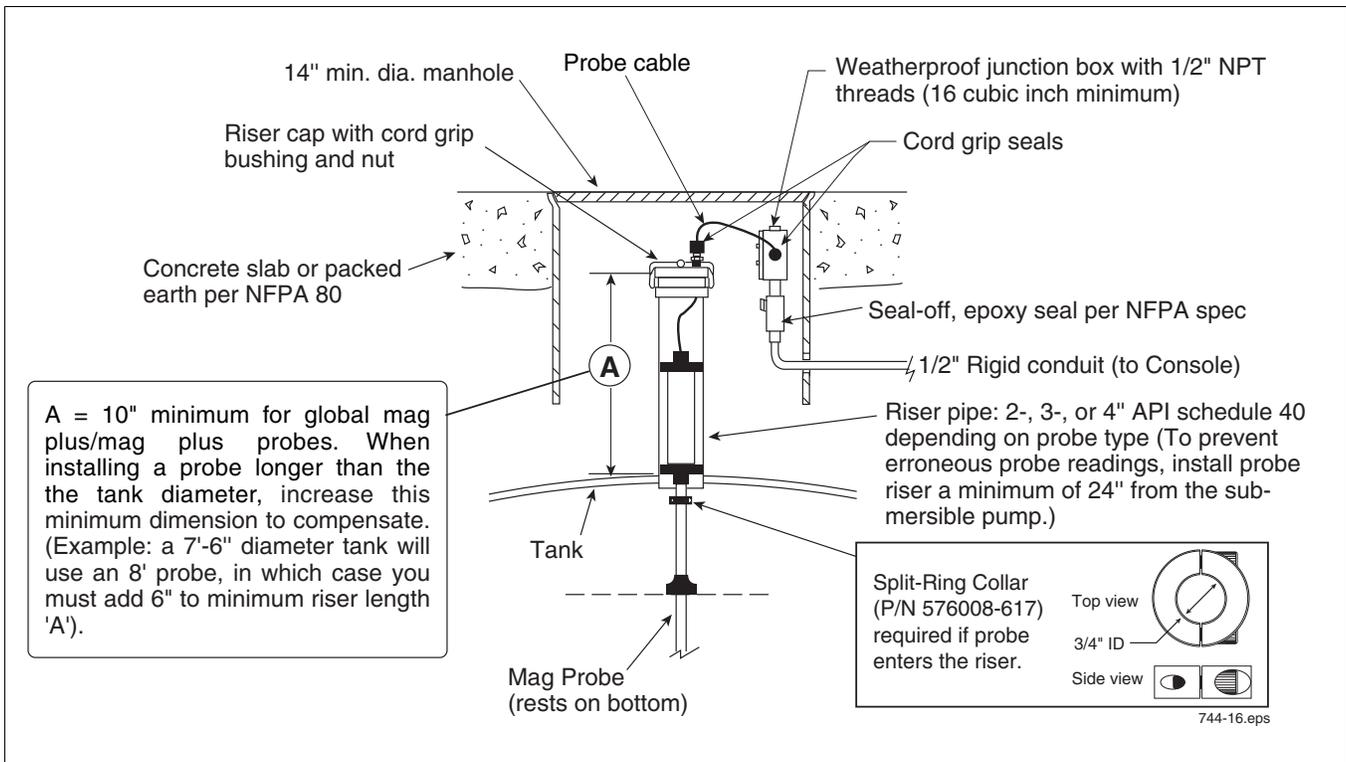
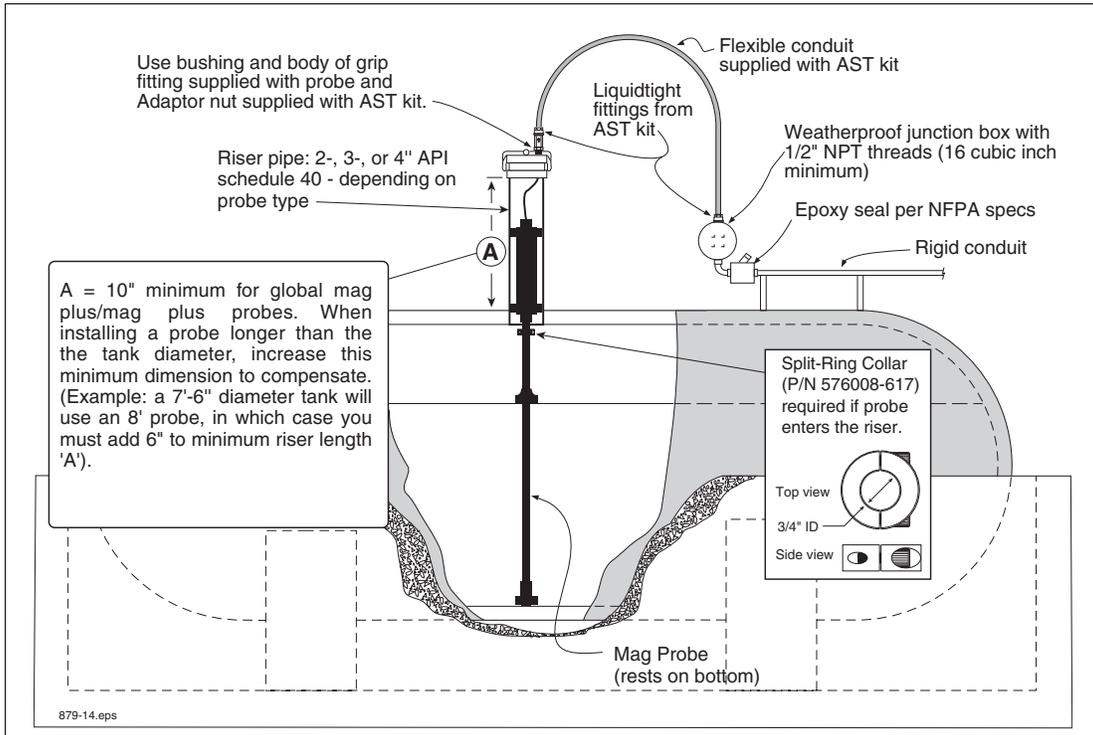

Figure 10. UST Probe Installation - Dedicated Riser
Figure 11. AST Probe Installation - Dedicated Riser
4. Gently slide the float(s) to the bottom of the probe shaft before raising the probe. Carefully lower the probe into the riser pipe until the boot rests on the bottom of the tank [See Figure 10 for example UST installation or Figure 11 for example AST installation].